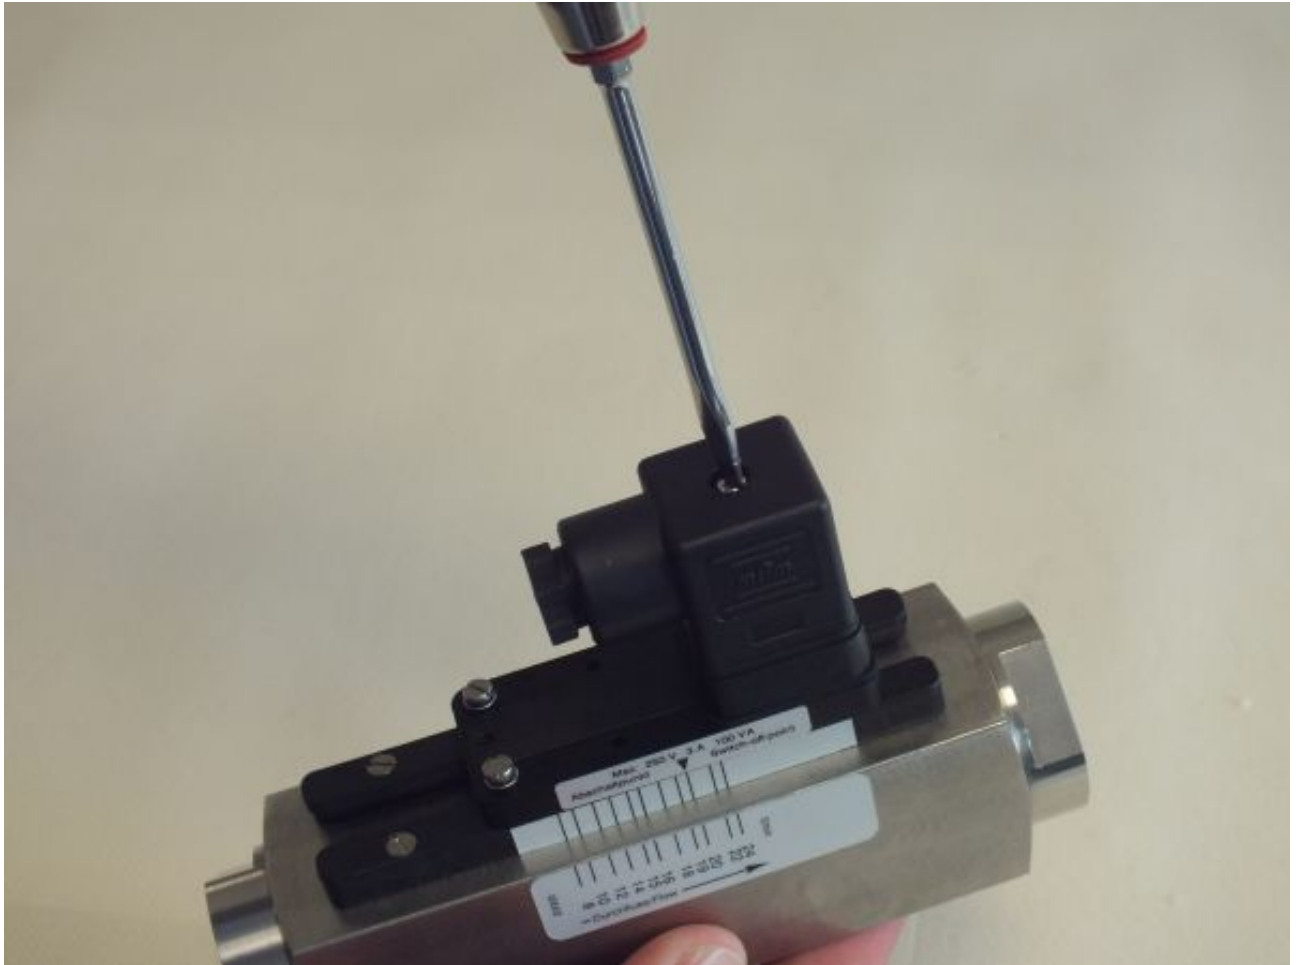

Fig. 27: Detach socket
- 1.** ➤ Release the fixing screw (*Fig. 27*) from the socket
9. ➤ Place the female socket onto the connecting plug and tighten the fixing screw (Fig. 27/1)